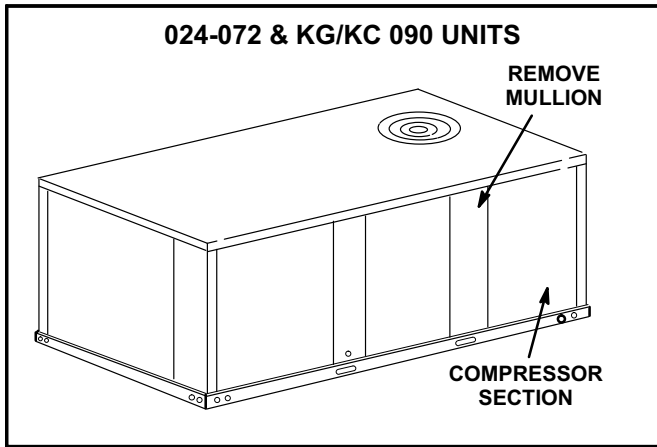

FIGURE 1
- 2- Remove the mullion on the left side of the compressor section. Retain the screws. See figure 1.